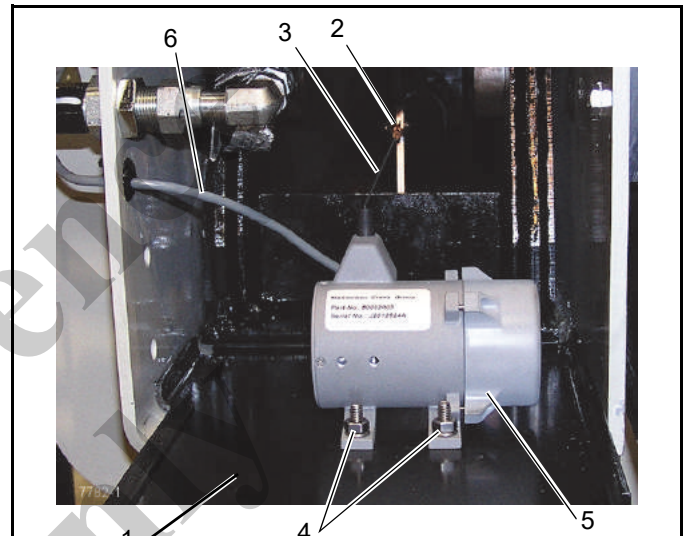

FIGURE 7-11
2. Remove the hardware that secures the outrigger cover plate (1, Figure 7-11) and remove the cover plate.
3. Remove the OMS string potentiometer connector (2) from the attaching point on the outrigger beam.